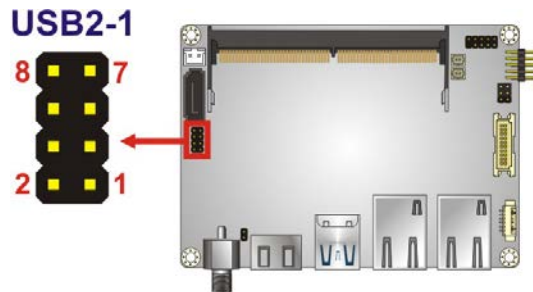

Figure 3-17: USB Connector Location
- CN Location:** See Figure 3-17